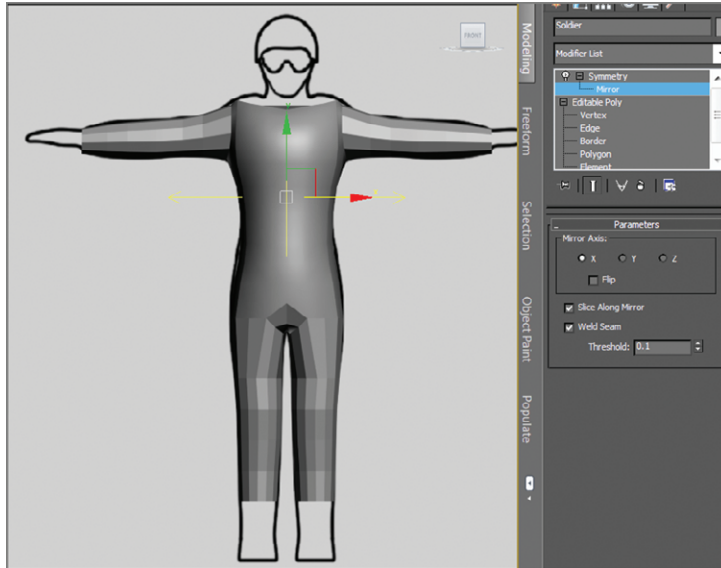

FIGURE 8.2 Using the Symmetry modifier, move the mirror plane so the main body shape is whole.
6. In the Front viewport, select the X-axis arrow of the Transform gizmo and move the mirror plane to the left until you get a whole soldier, as shown in Figure 8.2.